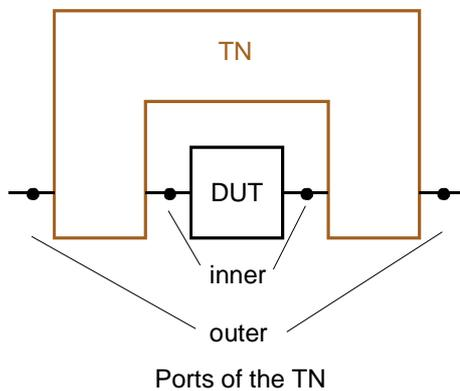

Fig. 1: Inner and outer ports of a transformation network
A frequently occurring category of measuring tasks in network analysis comprises the so-called embedding and de-embedding problems. A device under test (DUT) is embedded if its ports are all connected to a transformation network (TN) so that only the ports of the transformation network are accessible from outside. This transformation network may be e.g. a matching circuit, a test fixture or a case. In general, it features twice as many ports as the DUT. The ports of the transformation network which are connected to the device under test are referred to as “inner” ports, those accessible from outside as “outer” ports. Fig. 1 shows an example of a two-port embedded in a transformation network with four ports.